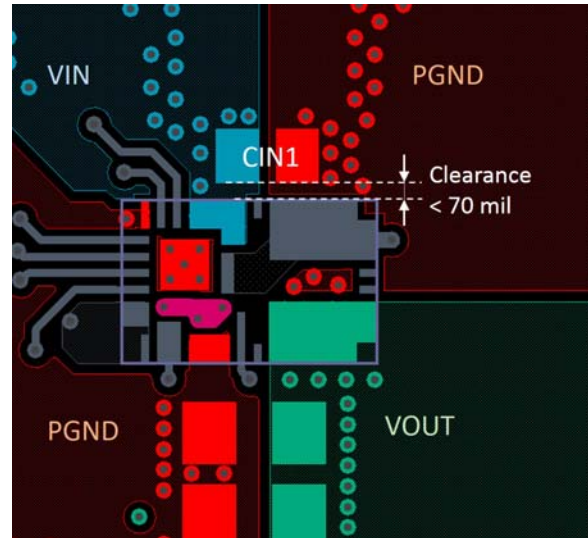
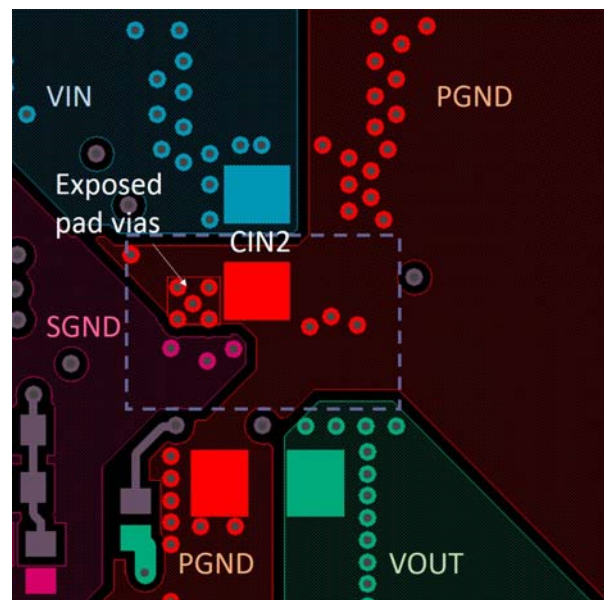

FIGURE 39. LAYOUT EXAMPLE - TOP LAYER
FIGURE 40. LAYOUT EXAMPLE - BOTTOM LAYER
A few layout considerations need to be taken into account in order to achieve proper operation of ISL8205M. An optimized layout design also allows the module to have lower power loss and good thermal performance. An illustrative layout example is shown in Figures 39 and 40. Key points are listed in the following:
- Place the input ceramic capacitors as close as possible to the module input. These ceramic capacitors are used to minimize the high frequency noise by reducing parasitic inductance of the switching loop. Optimized placement of these capacitors will not only lead to less switch node ringing, but also minimize the noise seen by the module to insure proper operation. It is recommended to use X5R or X7R ceramic capacitors with a minimum total capacitance of 44 μ F at module input. It is a **MUST** that one of the input capacitors (C_{IN1}), with no less than 3.3 μ F capacitance, should be placed on the same layer (assuming top layer) as the module and within less than 70 mil clearance to module input (refer to Figure 39). For capacitors on the bottom layer, it is recommended to have one (C_{IN2}) placed from VIN to PGND copper close to exposed pad (Pad 20) vias (as shown in the layout example in Figure 40).
- Use a separate SGND ground copper area for components that are connected to signal ground. Connect SGND copper to module Pad 22 through multiple vias (refer to Figure 40). Because Pad 22 is connected to module internal PGND at single location, the SGND copper area and PGND plane on the PCB can be left separated.